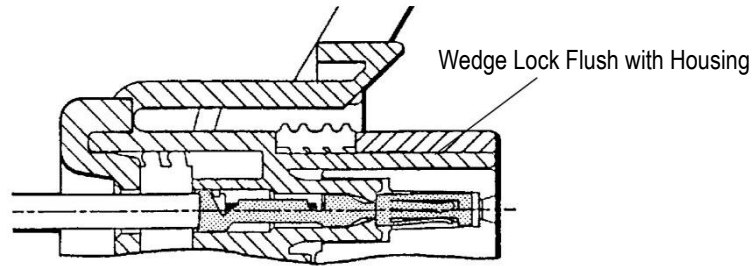

Figure 6
4. Slide the wedge lock into the housing until it is flush with the housing (see Figure 6).